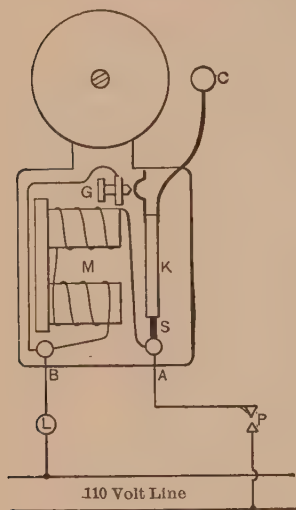
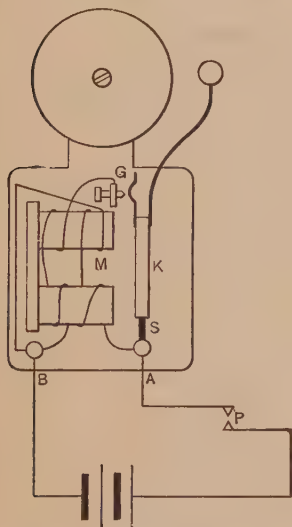

FIG. 188. Vibrating-stroke bell. Short-circuit type.
FIG. 189. Vibrating-stroke bell.
**111. Short-circuit Type.** But when the electric lighting circuit is used to ring the bells the points at *G* soon become fouled on account of the excessive sparking which takes place every time the circuit is opened at this point. To avoid this, two other types of vibrating-stroke bells are in common use: the **short-circuit bell**, Fig. 188, and the **differential bell**, Fig. 189.
**112. The Differential Type of Bell.** The differential bell of Fig. 189 will work either on a battery or on the lighting circuit with a lamp in series with the bell.